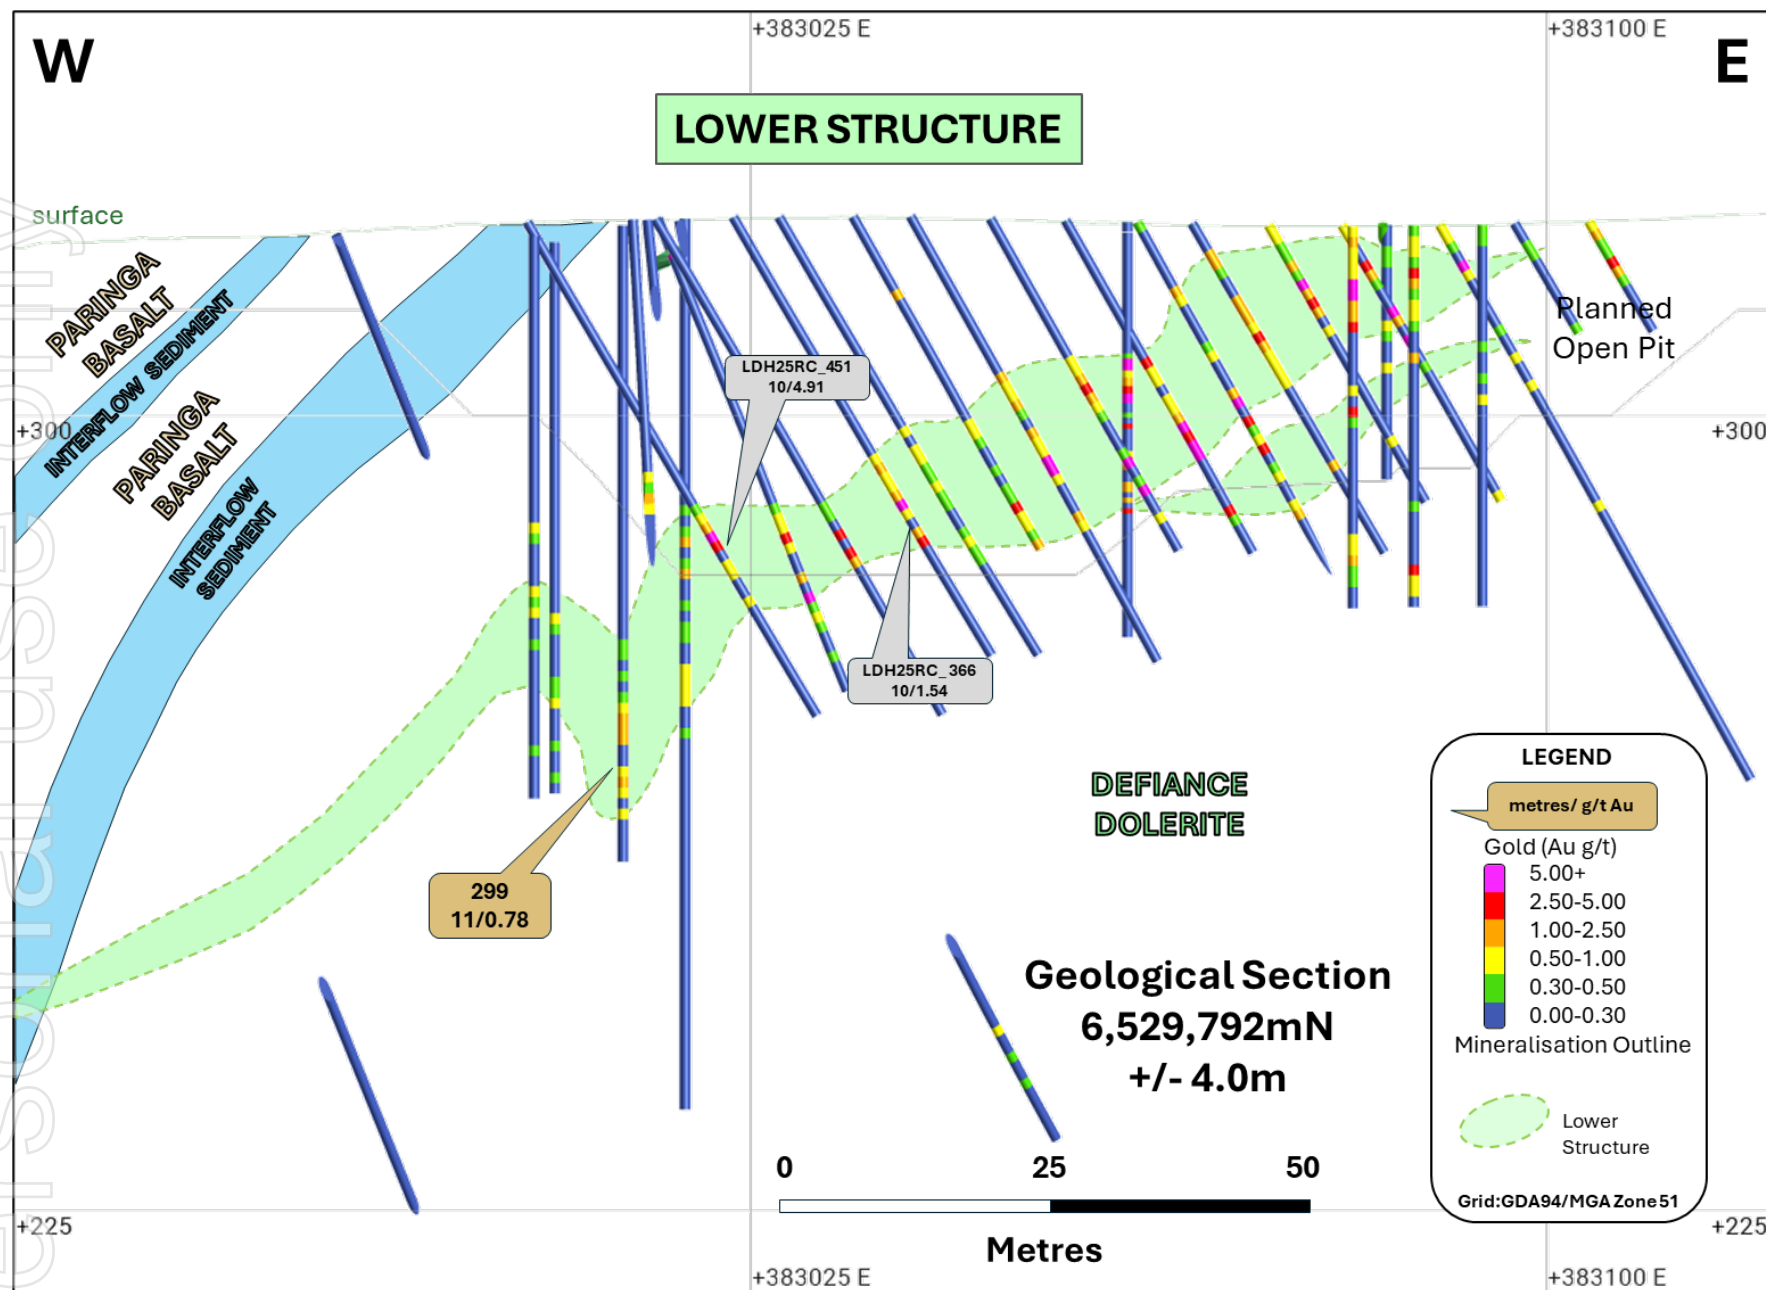

Figure 7: Section 6,529,792mN (looking north +/- 4m) illustrating the results reported today (gold call-outs).
- **Lower Structure – Figure 7:** section 6,529,792mN highlighting one result which represents an extension to an existing drill hole into the Lower Structure below the current planned pit.